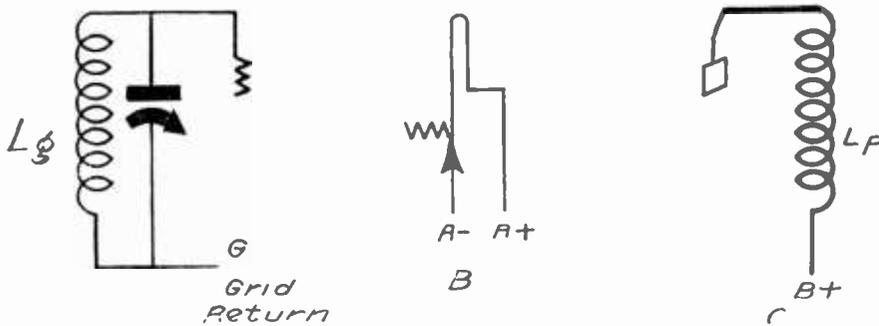

FIG. 532
(2)—This is the minus lead of the filament. In Fig. 532 B the rheostat is connected in the negative leg of the filament, or between the minus post of the filament of the tube and the minus post of the A battery. The other terminal of the filament may be called the positive leg. This applies to any source of power. That is, the negative lead may be referred to as the negative leg.
(3)—This is a coil, one of whose terminals, say the beginning, is connected to the plate, and the end or portion of the winding, is connected to the plus post of the B battery. See Fig. 532 C for diagram.